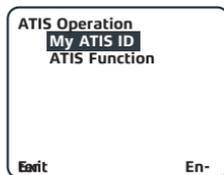

Figure 39
2. Select **My ATIS ID** and press **Enter** (fig 39).